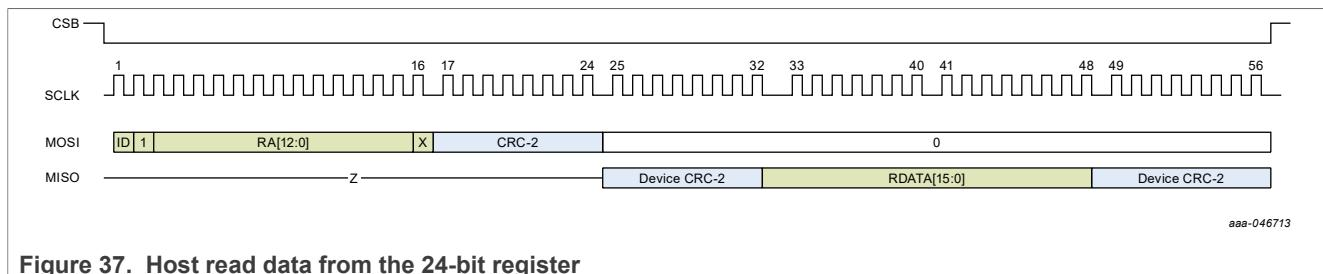

Figure 37. Host read data from the 24-bit register
Figure 37 shows host read data from the 24-bit register. The host sends the first CRC byte, calculated based on the first 16-bit word, which includes device ID bit, RW_L bit, RA bits, and don't care bit (0). The second CRC byte is from the device to the host. It is calculated based on RDATA from the device to the host. Figure 37 also shows host read data from the 16-bit register.